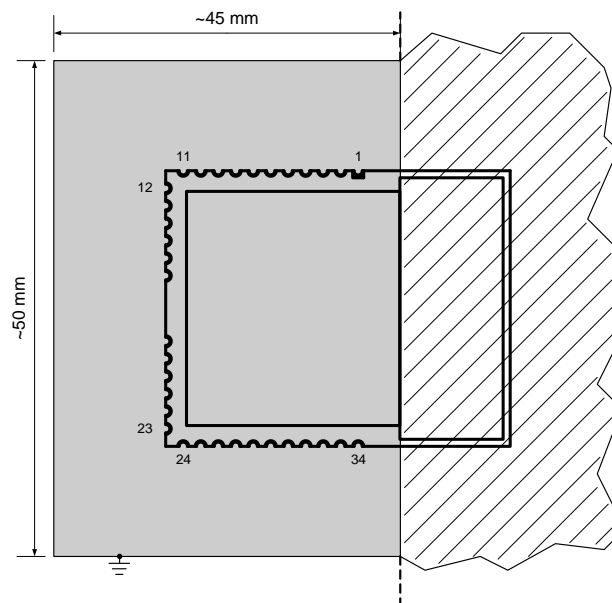

Figure 6-2: Recommended Environment
- As shown in Figure 6-2, the solid grey area must be a ground-plane on the Bottom Layer (or Layer 2 in a multi-layer structure) of the carrier board. Antenna matching and all other measurements have been done with these dimensions.
- The hatched area shown in Figure 6-2 has to be free of material (e.g. PCB, metal, housing). If possible, the distance from the antenna area to any material should be at least  $\lambda/2$  see 1.